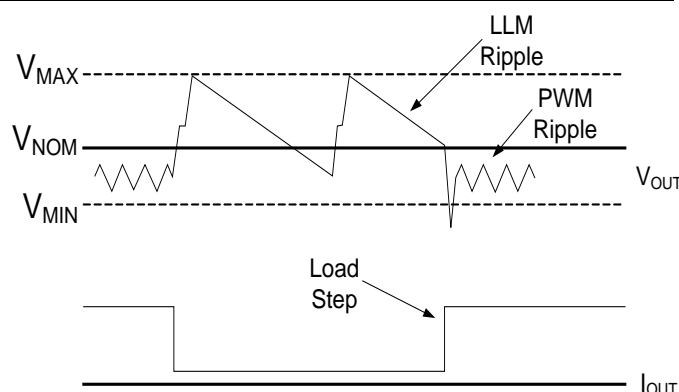

Figure 5: V_{OUT} behavior in LLM operation.
- (1) Step V_{OUT} up by approximately 1.0% above the nominal operating output voltage setting, V_{NOM} and as low as -0.5% below V_{NOM} , and then
- (2) Shut down unnecessary circuitry, and then
- (3) Monitor V_{OUT} .
When V_{OUT} falls below V_{NOM} , the device will repeat (1), (2), and (3). The voltage step up, or pre-positioning, improves transient droop when a load transient causes a transition from LLM mode to PWM mode. If a load transient occurs, causing V_{OUT} to fall below the threshold V_{MIN} , the device will exit LLM operation and begin normal PWM operation. Figure 5 demonstrates V_{OUT} behavior during transition into and out of LLM operation.